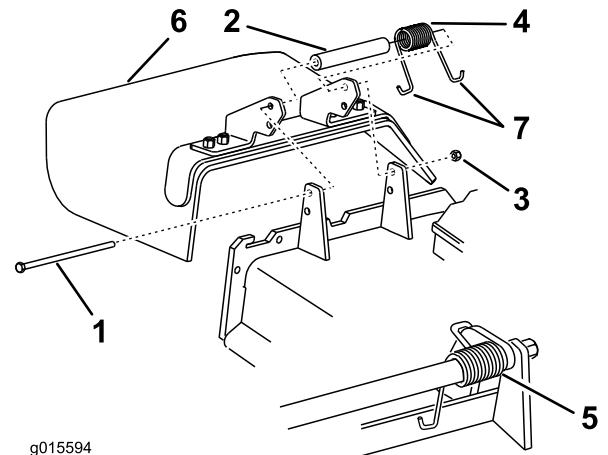

Figure 1
1. Remove the locknut, bolt, spacer, and spring that secure the side-discharge chute to the mower deck (Figure 1).
2. Remove the side discharge chute from the mower deck (Figure 1).